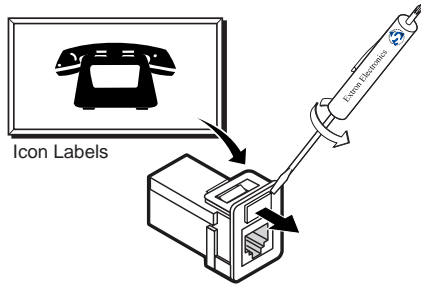

Figure 1-8 — Changing the connector icon
7. If desired, on the front panel, replace the connector icon by prying the old icon off of the bezel plug-in (figure 1-8) with a tweezers and snapping a new icon in place.